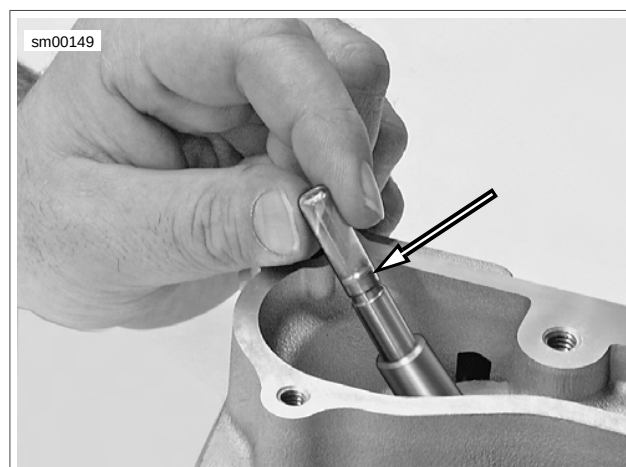

Figure 3-61. Valve Guide Seal Protector Sleeve
6. See Figure 3-61. Place a protective sleeve over the valve stem keeper groove.